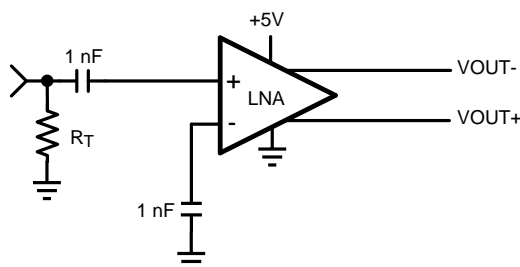

Figure 6-3. Standard Input Termination
1. Standard Termination is illustrated in Figure 6-3, where the receive (Rx) probe (through the T/R switch) is terminated with R_T for proper cable termination, and AC coupled to the LNA's non-inverting input. The inverting input is returned to ground through a capacitor.